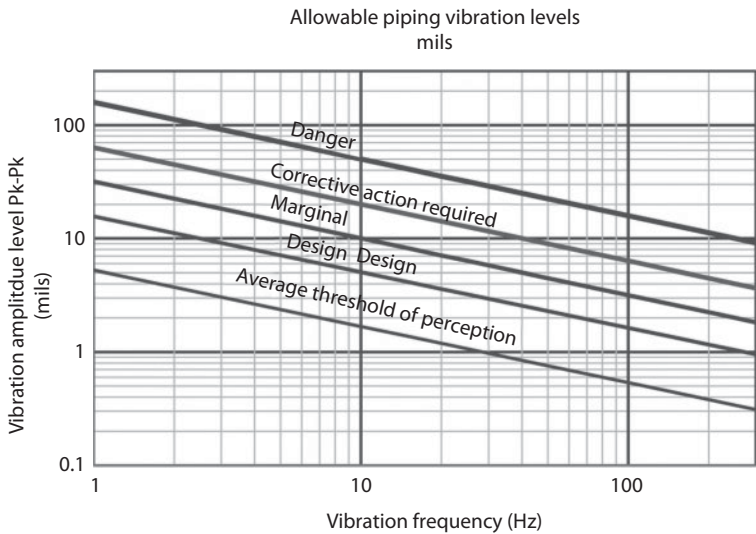
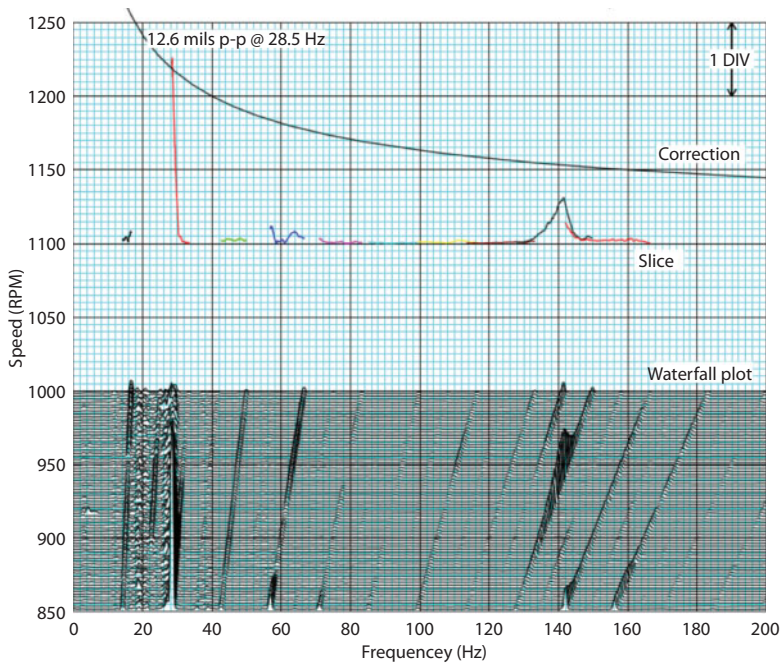

Figure 20.1 Piping assessment chart (Based on Engineering Dynamics Inc. (EDI) guidelines).
Figure 20.4 Waterfall Display of Piping Vibration.
If large piping shaking forces are present, for whatever reason, piping may be prone to fail if the experienced deflections are such that the endurance limit of the piping material of construction is exceeded. The evaluation guidelines we recommend are based on a proven methodology that has been used by vibration professional for decades. The assessment method defines marginal, correction, and danger piping vibration levels based on the amplitudes of the spectral frequency components detected (see Figure 20.1). If vibration levels are kept below the
Piping vibration is normally acquired with a magnetically mounted accelerometer (see Figure 20.2 and 20.3 below) that is connected to a spectrum analyzer. The largest frequency component in the vibration spectrum should be compared with allowable piping vibration guidelines (see Figure 20.1). For example, you can see by inspection in Figure 20.4 that the plot of the 2x vibration component (labeled as “12.6 mil p-p @ 28.5 Hz” in Figure 20.4) is by far the largest vibration components in these spectra. The 2x component peaks at 28.5 Hz (1710 cpm) at a level of 12.6 mils, probably due to some type of mechanical resonance. The peak amplitude of the 2x component was found to be above the “correction action required” vibration level.
4. They evaluate all the largest spectral peaks using the “Piping Assessment Chart” (see Figure 20.1).
To better understand the piping assessment process, we will review a few examples. In each case, we will refer to Figure 20.1. to determine if the piping vibration levels are acceptable or not: